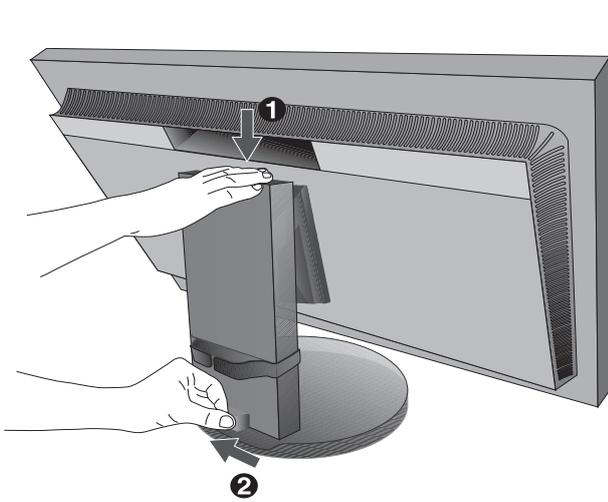

Figure B.1
- Height adjustment is locked by lock button. Place hand on top of the stand to push down the screen to the lowest position. Slide the lock button to unlock the stand to raise the monitor head (**Figure B.1**).